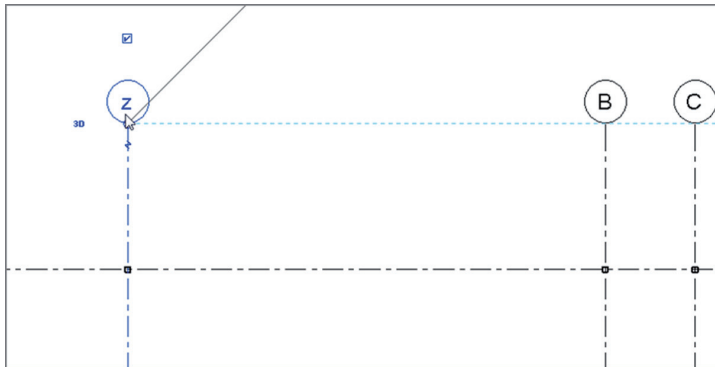

FIGURE BC6.10: Renaming grid A
3. Open the Level 1 structural view, and rename grid A to z, as shown in Figure BC6.10.